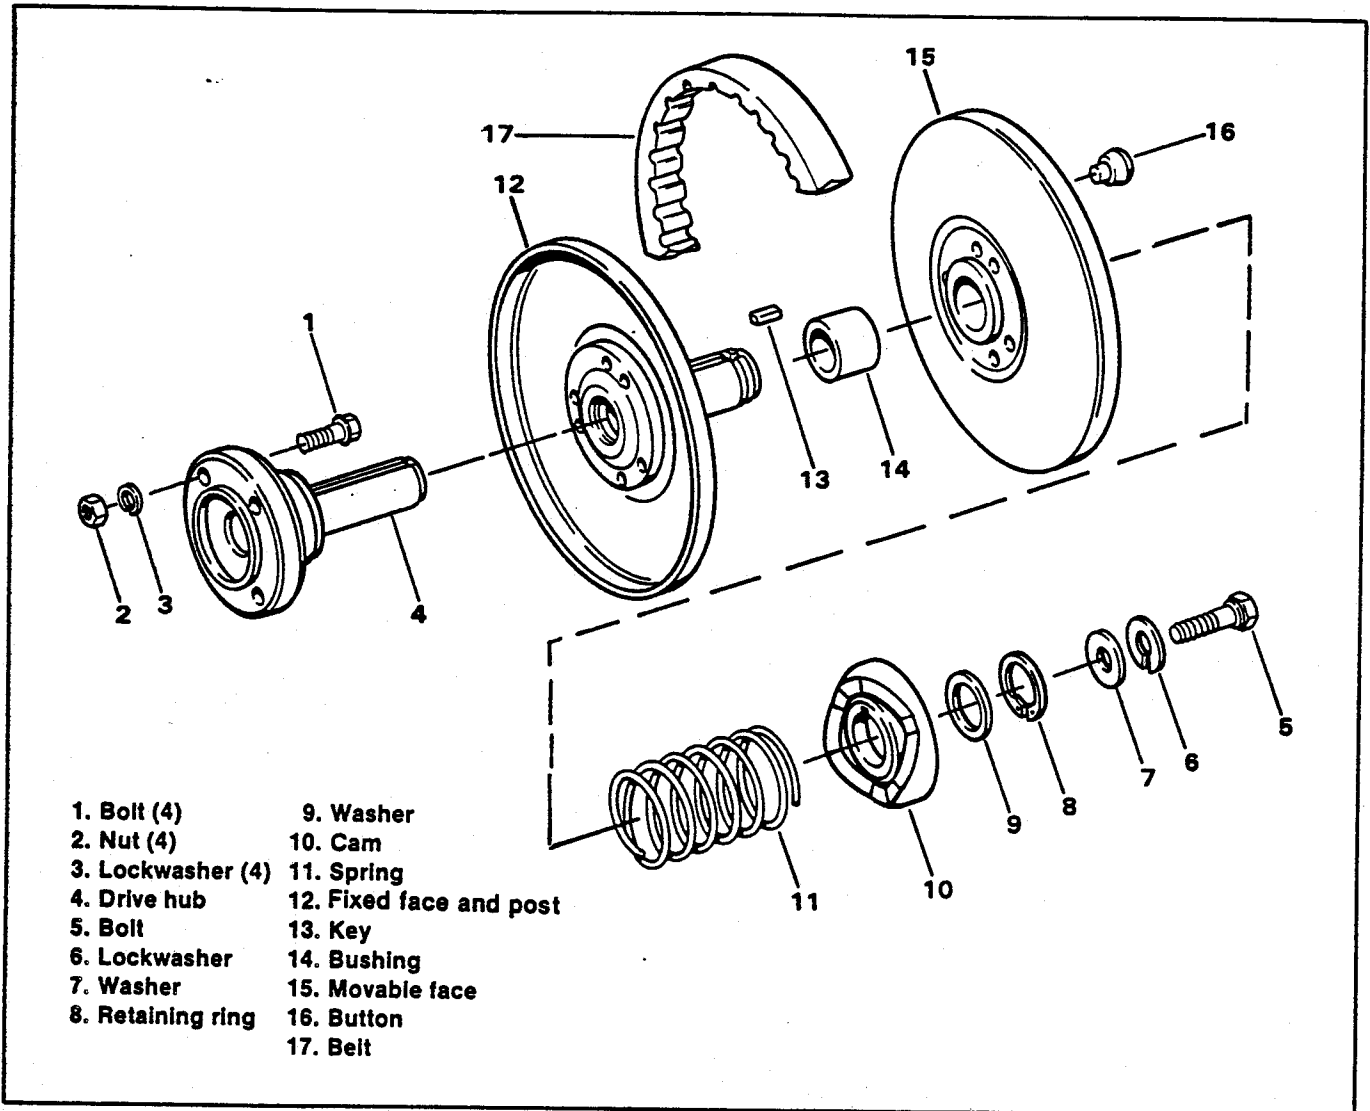

Figure 7-6. Secondary Drive Assembly — Exploded View
DISASSEMBLY (Figure 7-6)
1. See Figure 7-6 Press out bushing (14) being careful not to score bore. Clean with a non-flammable solvent.
2. When installing new bushing, submerge moveable flange (15) in 30 wt. oil and press new bushing in while bore is still submerged. This will fill reservoir cavity behind bushing.
ASSEMBLY (Figure 7-6)